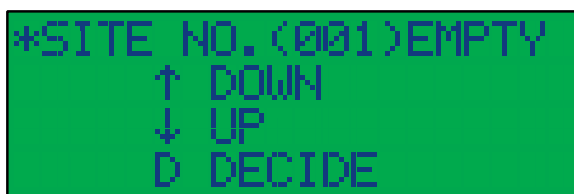

Fig.5-3 SITE Selection Screen
- Once CTS-02V4 is started up, information on version of measurement instrument, date and time in the internal clock and parameters set-up are displayed, and then move to SITE selection screen (See Fig.5-3). This is an initial state.